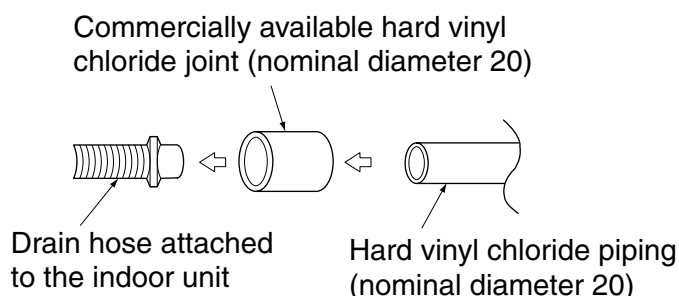

Fig. 17
- Use commercially available hard vinyl chloride joints (nominal diameter 20) when connecting hard vinyl chloride piping (nominal diameter 20) directly to drain hoses attached to the indoor unit, such as embedded pipes. **(Refer to Fig. 17)**